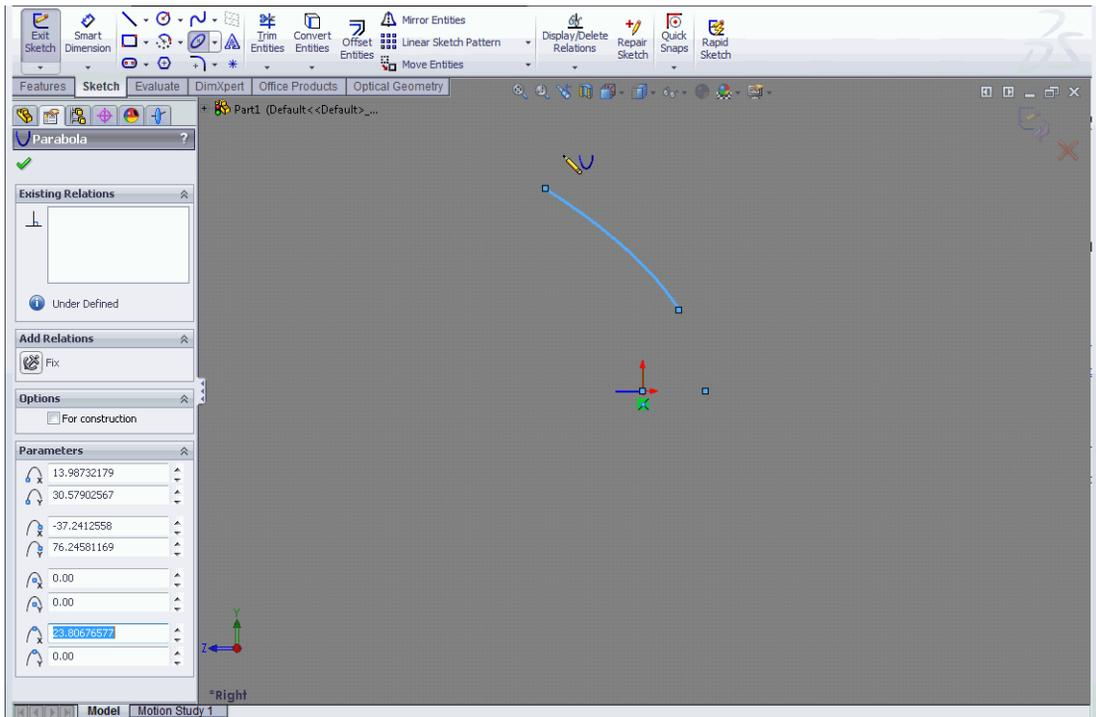

Figure 14 Defining a curve (the Parabola PropertyManager is displayed on left)
- 10 Release the pointer after you have defined a curve. See Figure 14.